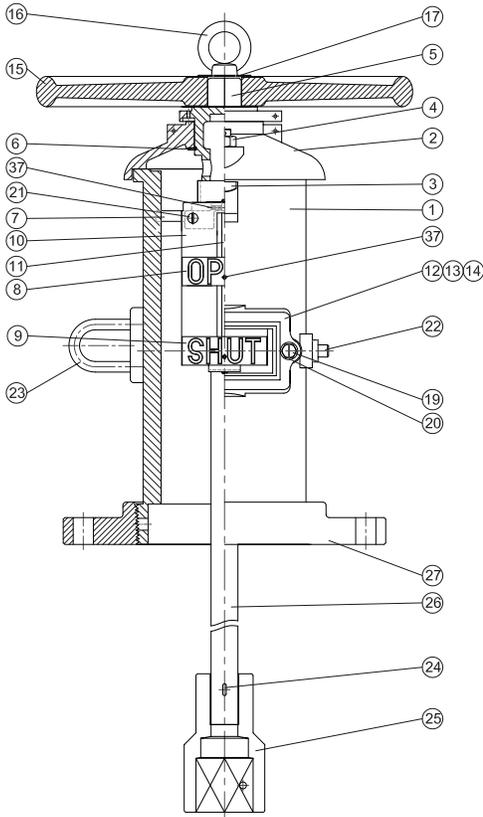

Fig. 2
- 3.2 Remove 1" square Operating Rod (26) with attached Coupling (25) from Indicator Post by sliding it out from bottom, See Fig. 2.
- 3.4 Reinstall the shortened Operating Rod (26) into the Wall Indicator Post by sliding it into the 1" square pocket in bottom side, See Fig. 2.
- 4.2 Remove 2 Nuts (4) and 2 T-Head Bolts (3) that secure Cap (2) to Indicator Post. See Fig. 2.